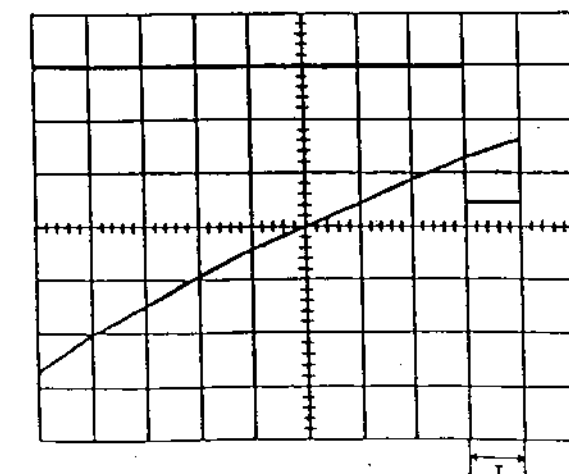

Fig. 6
- (1) Connect CH-1 on the oscilloscope to TP2001 and connect CH-2 on the oscilloscope to TP2003.
- (2) Adjust VR2002 so that the "I" portion measures $2.0 \pm 0.3\text{msec}$ as shown in Fig. 6.